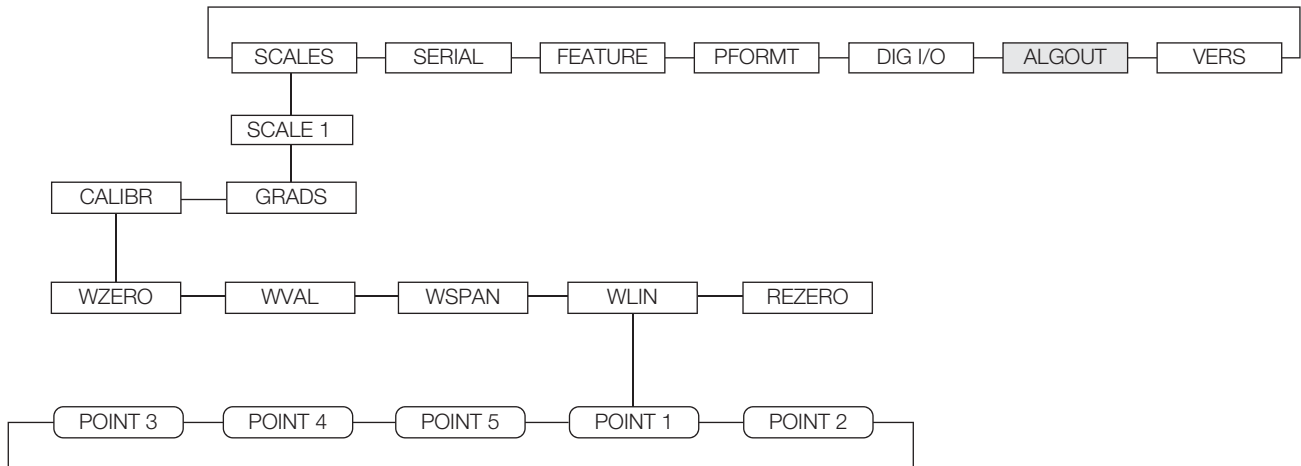
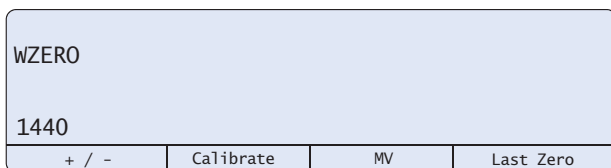

Figure 4-1. Calibration (CALIBR) Submenu
Figure 4-2. WZERO Calibration Display
The CALIBR submenu (under the SCALES menu, see Figure 4-2) is used to calibrate the 720i.
2. With the SCALES menu highlighted, press the **Down** key, then select the scale to be calibrated. Press **Down** again (GRADS parameter highlighted), then press **Left** to highlight the CALIBR submenu (see Figure 4-1). Press **Down** to go to zero calibration (WZERO). See Figure 4-2 on page 47.